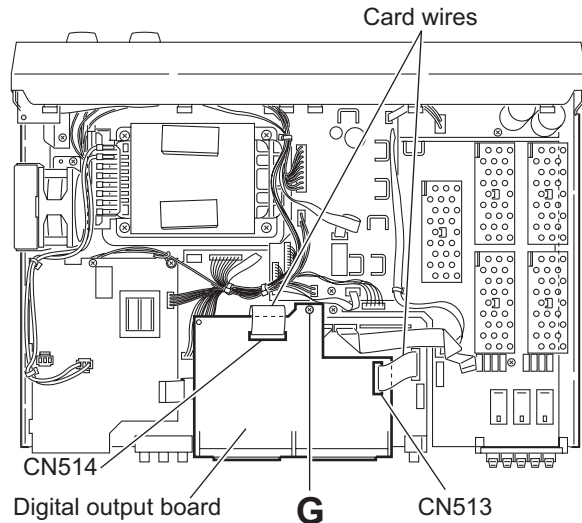

Fig.9
3.1.6 Removing the digital output board (See Fig.9)